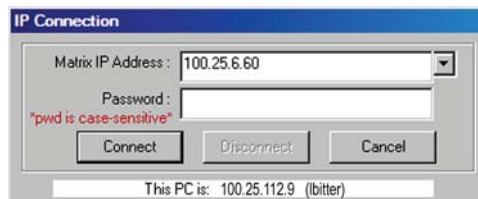

Figure 5-3 — Address and password entry for IP connection
3. If you selected *IP [LAN]* in step 2, the IP Connection window opens (figure 5-3).